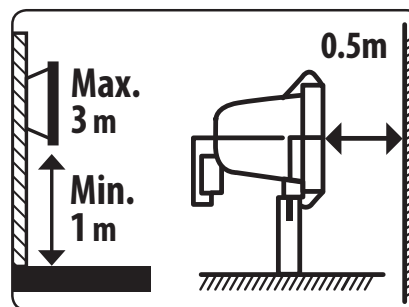
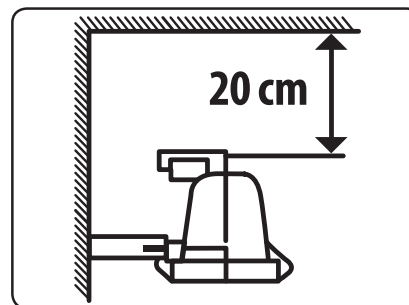

Fig. 3
Fig. 4
- In the case when the floodlight is mounted to a base using screws, mount it 1-3 m above the ground. The direct distance from the illuminated object should be at least 0.5 m (Fig.3). When the floodlight is mounted in a corner then it must be at least 20 cm away from the ceiling (Fig.4). The same applies when using the floodlight as a portable light source.